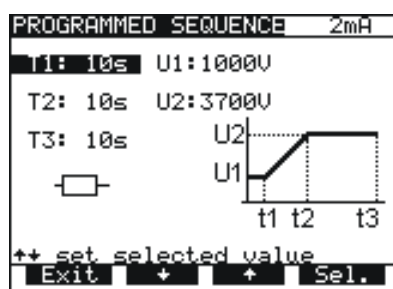

Fig. 12. Timer T1 is selected, change value by using \uparrow \downarrow keys
- To change U and T values press **U/T** key. Value **T2** represent time from **t1** to **t2** and value **T3** represent time from **t2** to **t3** (fig. 12). Menu for selection and changing values is displayed, see the following figure: